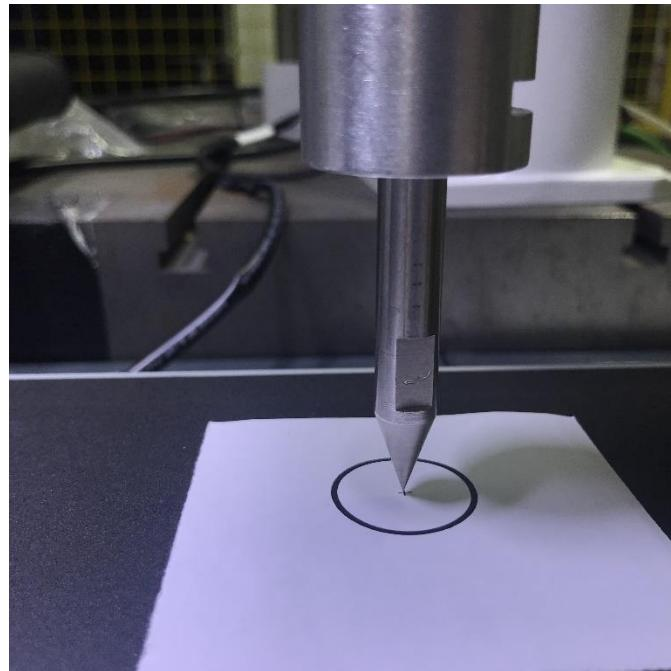

Figure 5.8 Conveyor calibration
**Step 6** Make the 3-position switch in the middle gear to enable the motor and jog the robot to the label position on the conveyor, and click **Get First Point** on the **First Point** section, as shown in Figure 5.8. We called this point as point A, which is the origin of the User coordinate system.